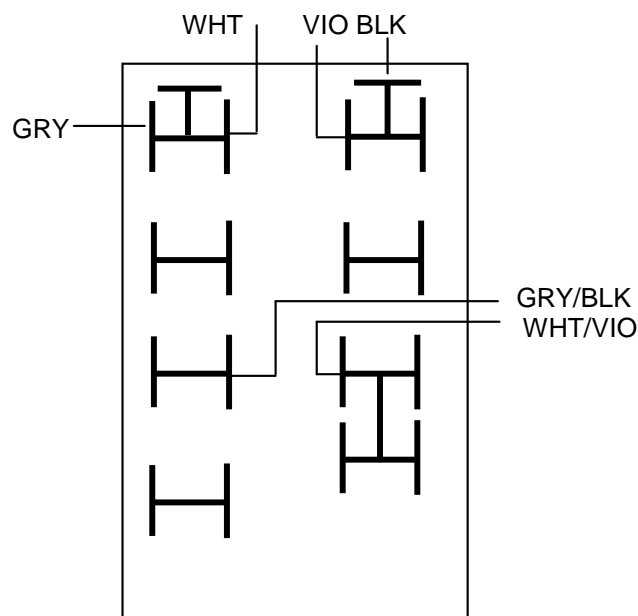

Fig. 1 Wired for 120VAC Conversion
- Step 1: Wire transformer terminal block for 120V operation as shown in Figure 1